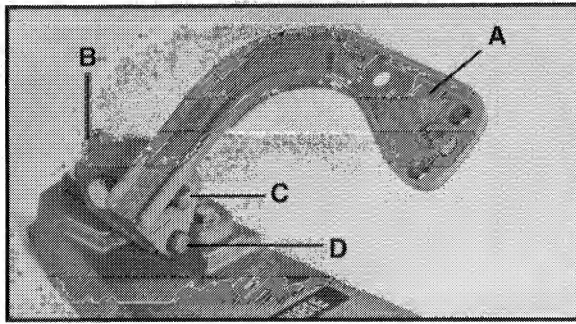

Fig. 3
3. Assemble arm (A) Fig. 3, to hinge assembly (B) using the two $\frac{3}{8}$ "-16 x $1\frac{1}{2}$ " long bolts and $\frac{3}{8}$ " I.D. x $\frac{3}{4}$ " O.D. washers (C) and (D). Rotate arm (A) so that the top elongated slot is centered with the top bolt (C) and tighten bolts firmly.